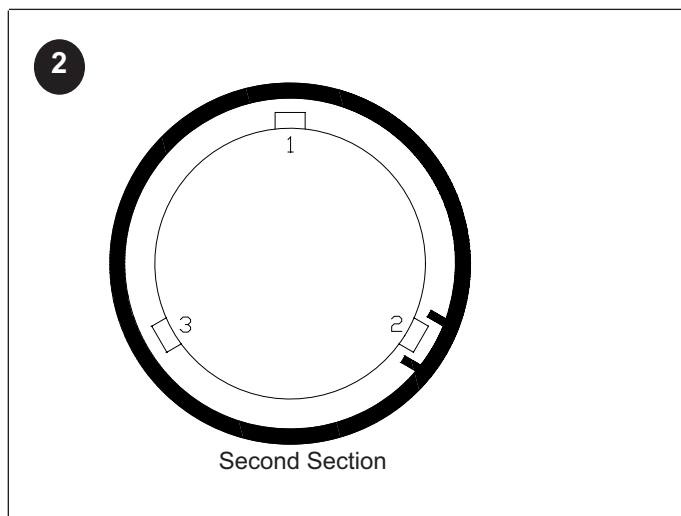

figure 9
- c. Place the second section on the core with the drive pins on either side of tube 2. Be sure the drive pins angle down (figure 9).